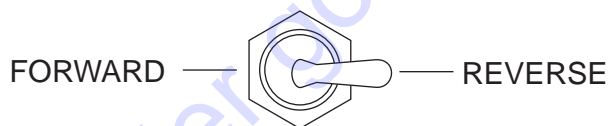

Figure 27. Direction Control Switch (REVERSE)
2. Place the **direction control switch** in the **REVERSE** position (Figure 27). This will mix the water and cement into slurry.